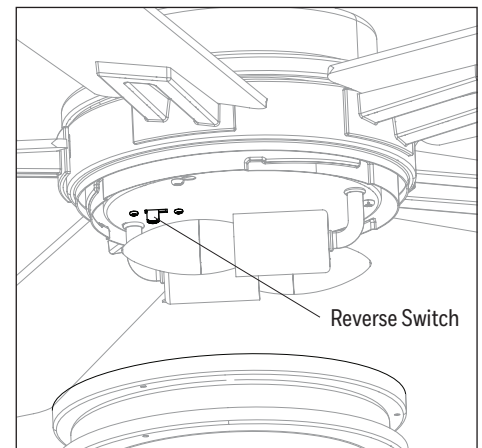

Figure 6.3
- Using a ceiling fan will allow you to raise your thermostat setting in summer and lower your thermostat setting in winter without feeling a difference in your comfort (Figure 6.3).